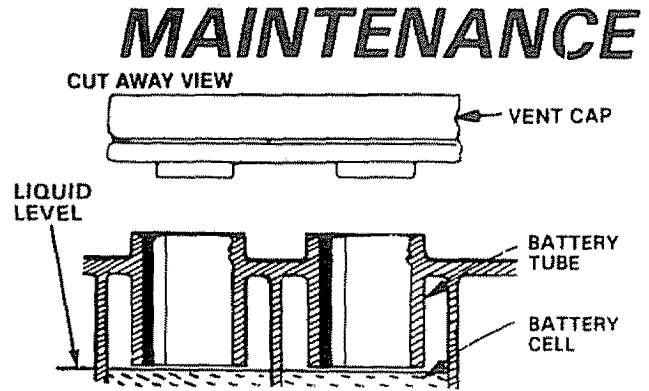

FIGURE 24
- a. Battery acid solution level in each battery cell should be even with bottoms of tubes in cells (Fig. 24). Add only distilled water if necessary. NOTE: DO NOT OVERFILL. DO NOT ADD ACID.